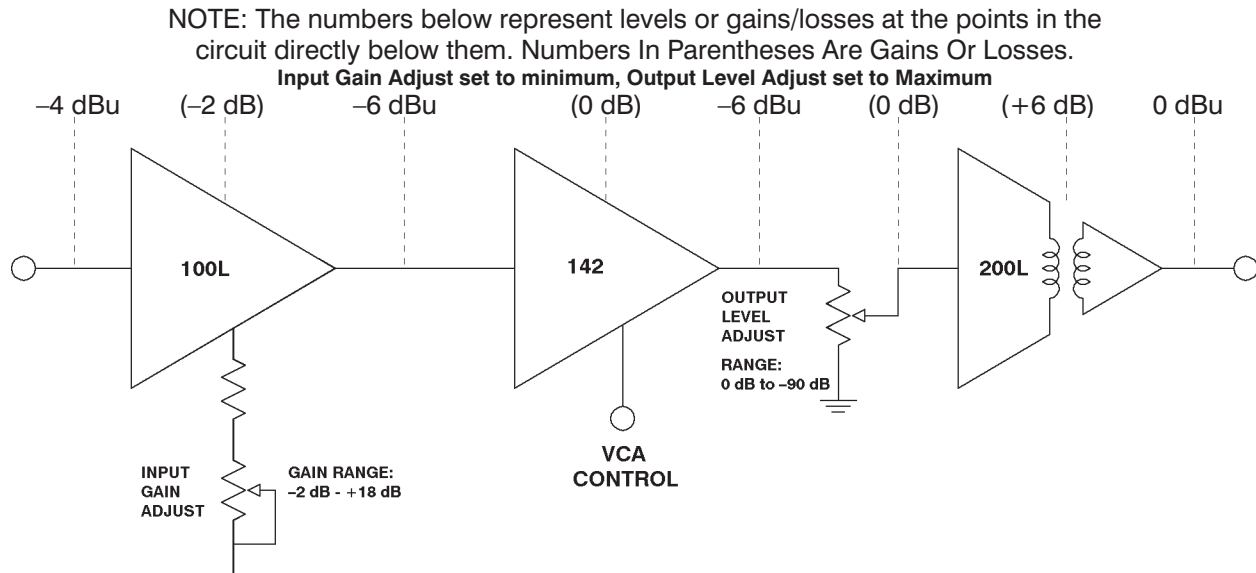

Figure 2 - Gain Structure
1. Locate a proper slot in the mainframe. Mainframe slots are set up on the rear panel of the mother board according to the card type to be used. Slots are dedicated by installing the proper trimpots. Trimpots **MUST** be installed as indicated in Figure 2 and 3 for inputs and outputs to function. Microphone level inputs require 200 Ω trimpots. All others require 10 k Ω trimpots. Slots labels are applied at the factory above each slot position. Single input cards such as the 5101V, 5101V-8, and the 5151V are labeled 'SPECIAL', as are any specially made cards. With the exception of the SPECIALS, cards may be inserted in any slot with a matching label.
The gain structure diagrams in Figures 2 - 3 show the signal levels and gains or losses at key points in the cards. Since all outputs on a card behave identically, only one output is shown in the diagrams. In the examples the Input Gain Adjust pots were set for minimum gain (fully counterclockwise), and the Output Level Adjust pots at maximum output (fully counterclockwise). The levels and gains shown are those required to produce an output level of 0 dBu.